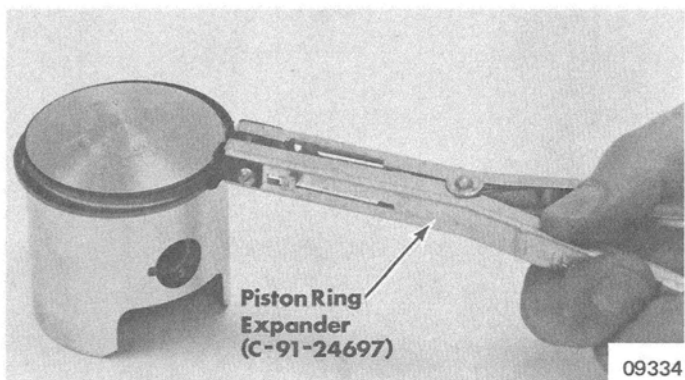

Figure 8. Piston Ring Replacement
5. Use Piston Ring Expander (C-91-24697) to remove piston rings from each piston. (Figure 8) Discard piston rings.
5. Using Piston Ring Expander (C-91-24697), install a new "rectangular" piston ring in lower ring groove, and a new "L" piston ring in upper ring groove of each piston. (Figure 8 in "Engine Disassembly", preceding.)